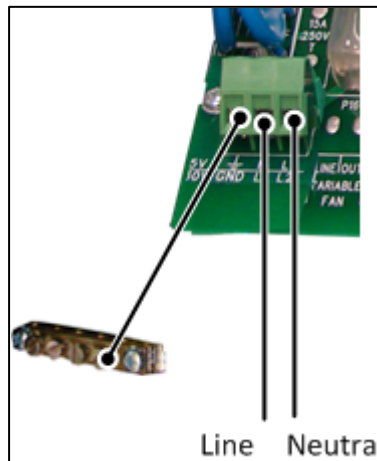

Figure 10: Powering the Unit
- Figure 10: Powering the Unit